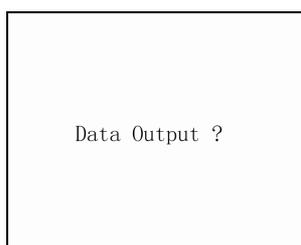

Fig. 2.13
- ▶ press **【Enter】**key to access data transmission interface (fig. 2.13);